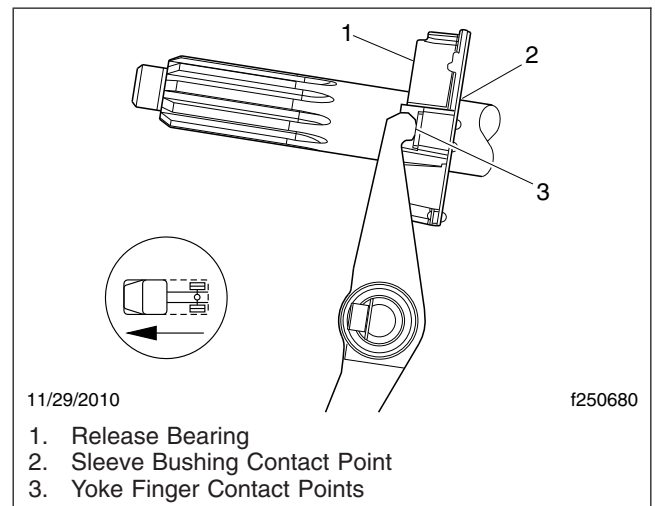

Fig. 2, Grease the Contact Points
4. Wipe off excess grease and apply it to both the yoke finger and sleeve bushing contact points. See Fig. 2.